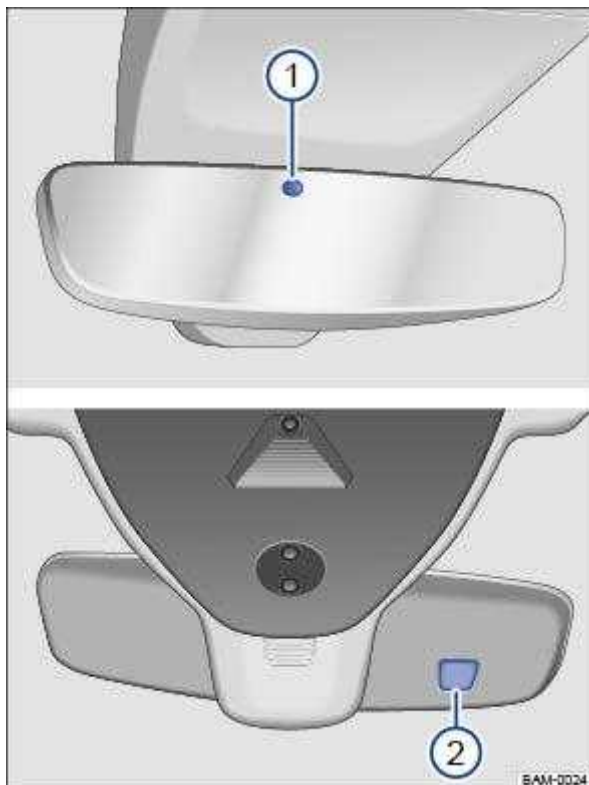

Fig. 86 On the windscreen: automatic anti-dazzle interior mirror.
When the ignition is switched on, the sensors measure the incident light from the rear ⇒ Fig. 86 ① and from the front ②.